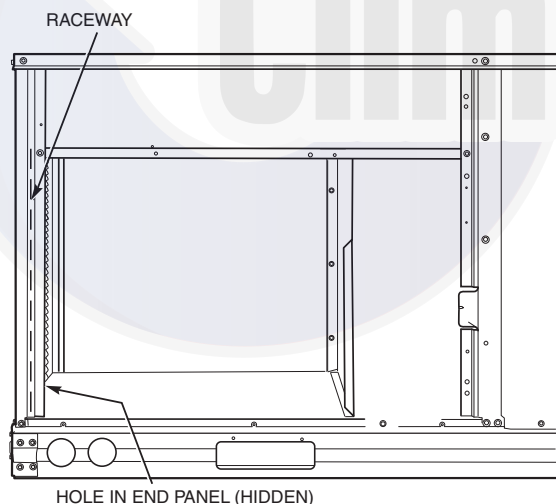

Fig. 32 — Field Control Wiring Raceway
Unit Without Thru-Base Connection Kit — Pass the thermostat control wires through the hole provided in the corner post; then feed the wires through the raceway built into the corner post to the control box. Pull the wires over to the terminal strip on the upper-left corner of the Controls Connection Board. See Fig. 32.
2. Feed wires through the raceway built into the corner post (see Fig. 32) to the 24-v barrier located on the left side of the control box. The raceway provides the UL-required clearance between high-voltage and low-voltage wiring.